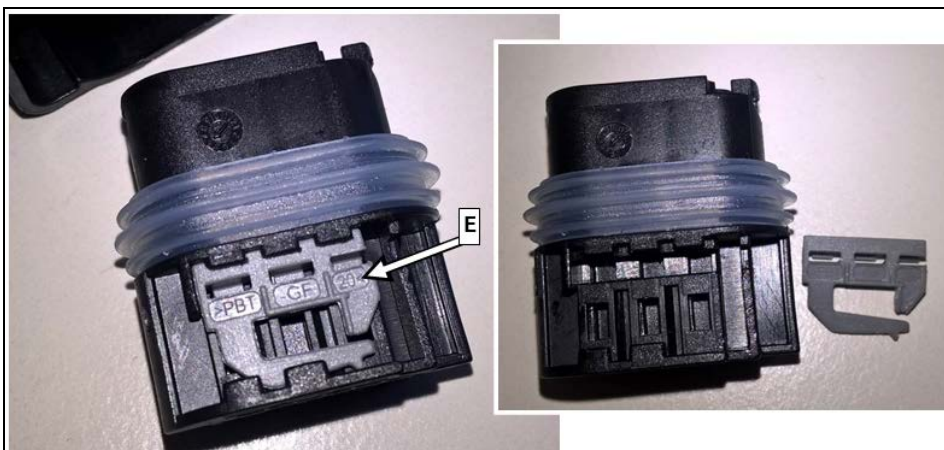

Figure 4
6. Release gray retainer (E, Figure 4) and remove